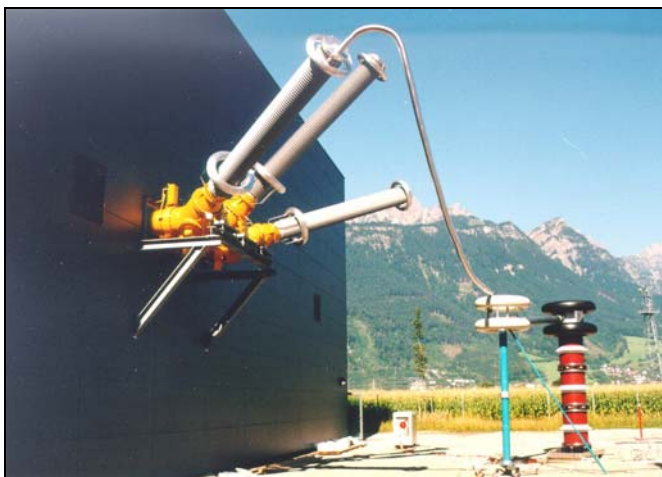

Fig. 2: Modular reactors of a system WRV 3/680 M during a GIS test.
The systems, type WRV ... M, with modular reactors (see Fig. 2) are prepared for multi-purpose applications in a voltage range from 50 kV to 800 kV. Their inductance can be well adapted to the test object capacitance by the series and parallel connection of the reactor modules.
- the HV reactor consisting of modules of type DSH, (Fig. 2, Leaflet 8.11) or of type DEI (Leaflet 8.15).
- the voltage divider can be used as the capacitive basic load (see Fig. 2).